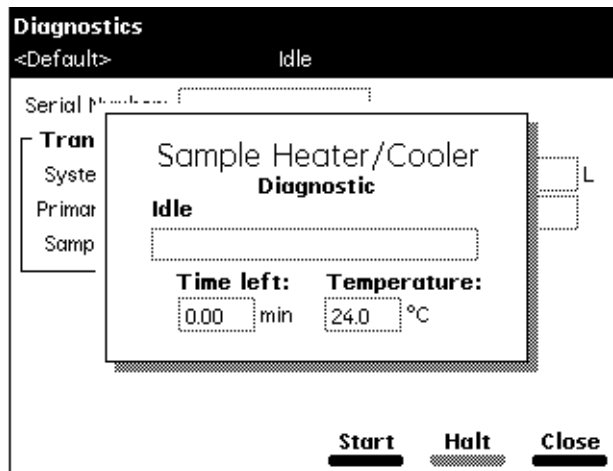

Figure 8-19 Sample Heater/Cooler Test Screen
1. Select **Sample heater/cooler** in the Other Diagnostics screen, then press **OK**. The Sample Heater/Cooler Test screen appears (Figure 8-19).